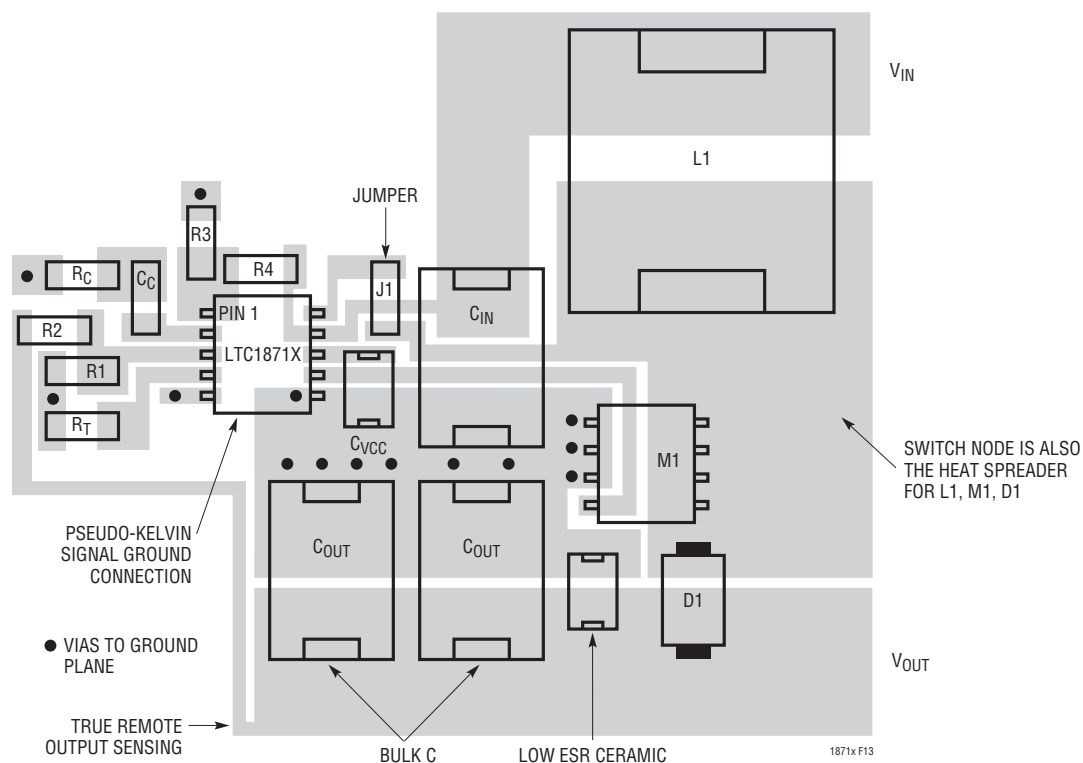

Figure 13. LTC1871X Boost Converter Suggested Layout
6. Place the small-signal components away from high frequency switching nodes. In the layout shown in Figure 13, all of the small-signal components have been placed on one side of the IC and all of the power components have been placed on the other. This also allows the use of a pseudo-Kelvin connection for the signal ground, where high di/dt gate driver currents flow out of the IC ground pin in one direction (to the bottom plate of the INTVCC decoupling capacitor) and small-signal currents flow in the other direction.